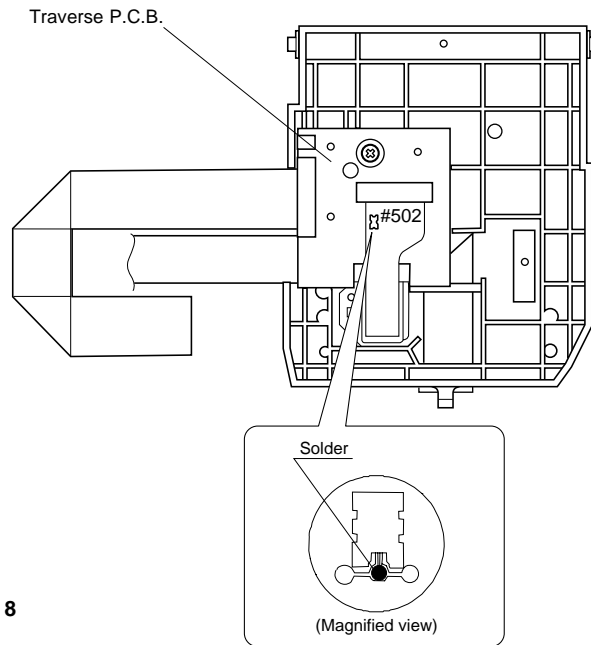

Fig. 8
- a. Remove 3 screws ( ⑭ ) in Fig. 8.